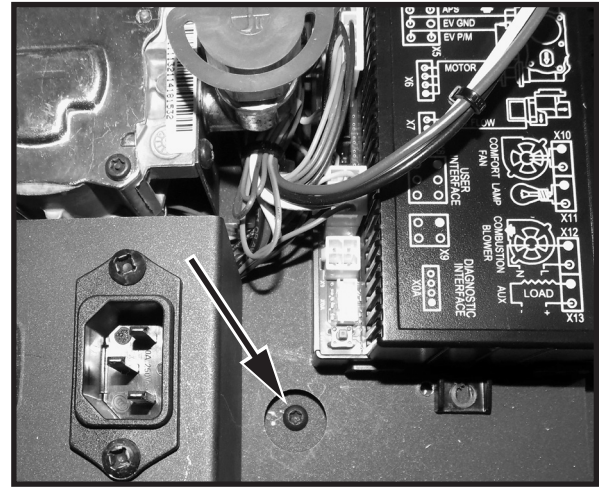

Figure 66: Remove lower screw.
16. Remove the single screw located between the power receptical and the control module (Figure 66).